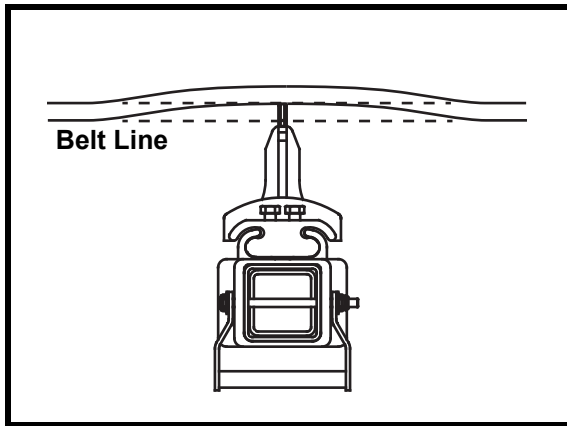
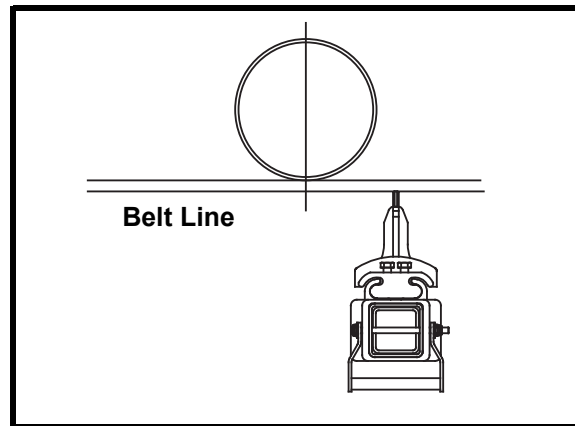

Figure 3a. Cleaner Changing Belt Line
Figure 3b. Cleaner with Belt Support
3. Make sure cleaner is not changing belt line (Figure 3a). If it is, install belt support ahead of blade-to-belt contact point (Figure 3b).